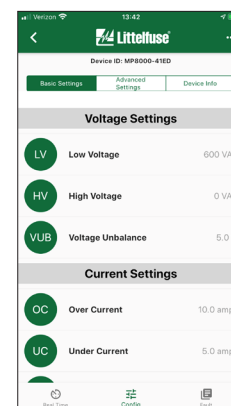

Figure 4
- c. Tap the desired parameter to enter the setting. (See Figure 4)